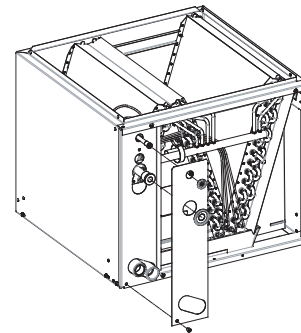

Fig. 13 - Uncased N-Coil & CK5 Casing
- Slide **header plate** and **grommets** over tubing and condensate pan connections and secure it to the header panel to cover up oversized and additional holes. This will provide an airtight seal and better installation presentation (See Fig. 13).